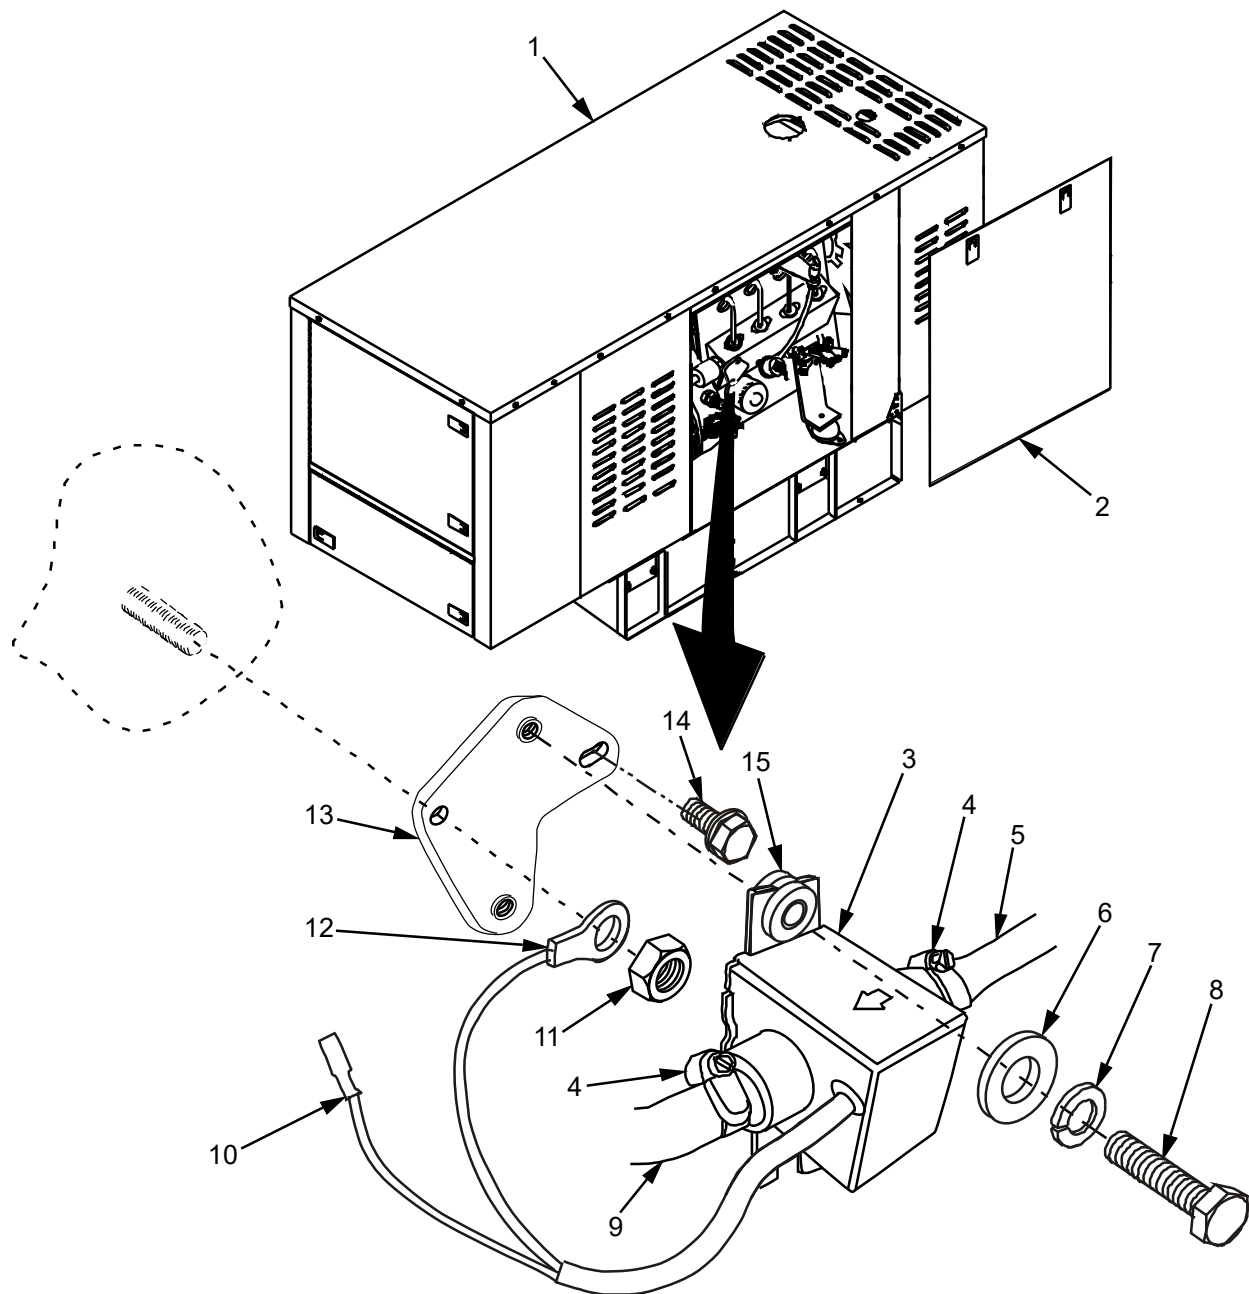

Figure 1. Electric Fuel Pump - Replace.
Prior to performing the following steps, inspect grommets (Figure 1, Item 15) and fuel lines (Figure 1, Items 5 and 9) for cracks, dryness, or other visible signs of wear or damage. If grommets (Figure 1, Item 15) or fuel lines (Figure 1, Items 5 and 9) appear excessively worn or are damaged, do not use.
Prior to performing the following steps, inspect electrical connector (Figure 1, Item 10), ground wire (Figure 1, Item 12) and engine wire harness terminals (not shown) for connectivity. Ensure that wire has not become brittle and that there are no nicks, cuts or other damage to wire. Ensure that electrical connectors are free and clear of grease, dirt or other contaminants that may impede electrical connectivity. If damage is noted, refer to WP 0081 for wiring repairs.
1. Secure electric fuel pump (Figure 1, Item 3) to electric fuel pump mounting bracket (Figure 1, Item 13) using two bolts (Figure 1, Item 8), new lock washers (Figure 1, Item 7), and flat washers (Figure 1, Item 6).
2. Connect electric fuel pump ground wire (Figure 1, Item 12) to electric fuel pump mounting bracket (Figure 1, Item 13) and secure using nut (Figure 1, Item 11).
3. Connect input and output fuel lines (Figure 1, Items 5 and 9) and tighten clamps (Figure 1, Item 4).
4. Connect electrical connector (Figure 1, Item 10) on electric fuel pump (Figure 1, Item 3) to wiring harness.
6. Install rear access panel (Figure 1, Item 2).